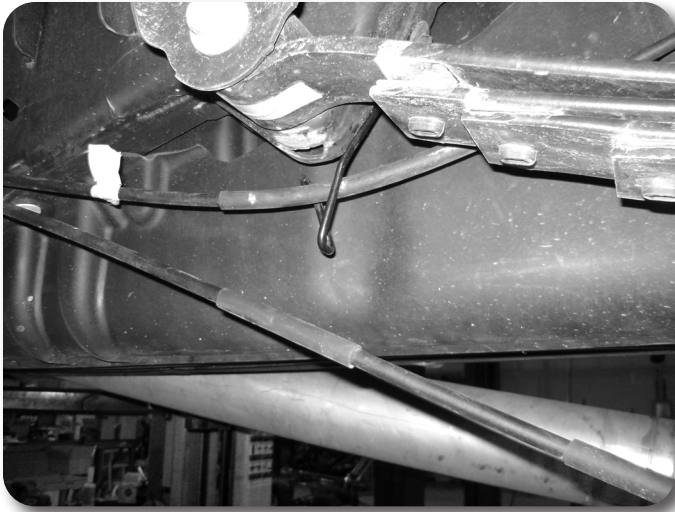

Figure 57
17. Remove the driver's side parking brake cable from the driver's side bracket that was removed from the frame. Move the passenger's side cable into the lower section of the bracket. Reattach the bracket to the frame and tighten hardware securely. **Figure 57**